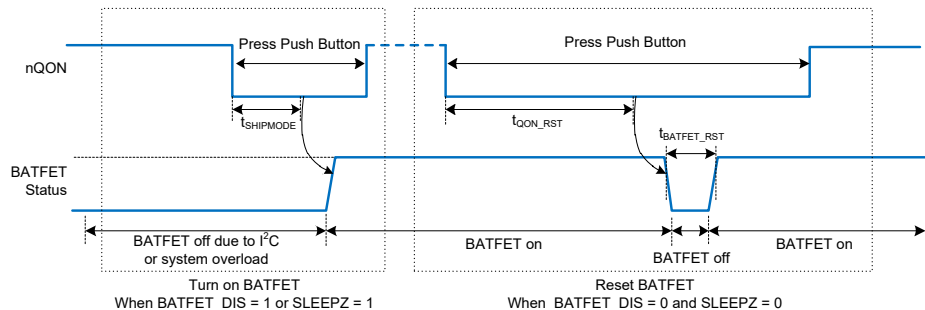

Figure 11. nQON Enable and Reset BATFET Timing
1. Enable BATFET: Applying an nQON logic high to low transition with longer than $t_{SHIPMODE}$ deglitch time (negative pulse) turns on BATFET to exit ship mode (Figure 11 left). When exiting shipping mode, HIZ is enabled (EN_HIZ = 1) as well. HIZ can be disabled (EN_HIZ = 0) by the host after exiting shipping mode. OTG cannot be enabled (OTG_CONFIG = 1) until HIZ is disabled.
2. Reset BATFET: By applying a logic low for a duration of at least t_{QON_RST} to nQON pin while VBUS is not powered and BATFET is allowed to turn on (BATFET_DIS bit = 0), the BATFET turns off for t_{BATFET_RST} and then it is re-enabled resulting in a system power-on reset (Figure 11 right). This function can be disabled by clearing BATFET_RST_EN bit.